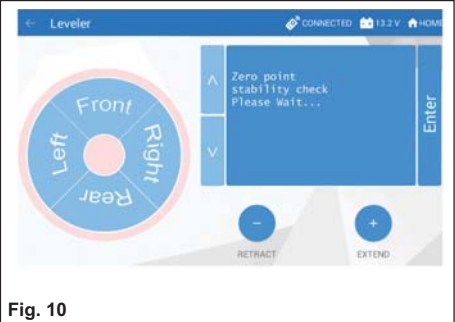
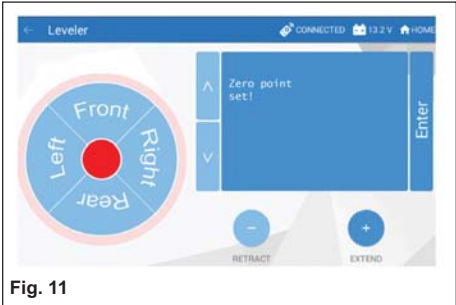

Fig. 10
Fig. 11
- 7. Screen will show "Zero Point Stability Check ... Please Wait" (Fig. 10), followed by "Zero Point Set" (Fig. 11)